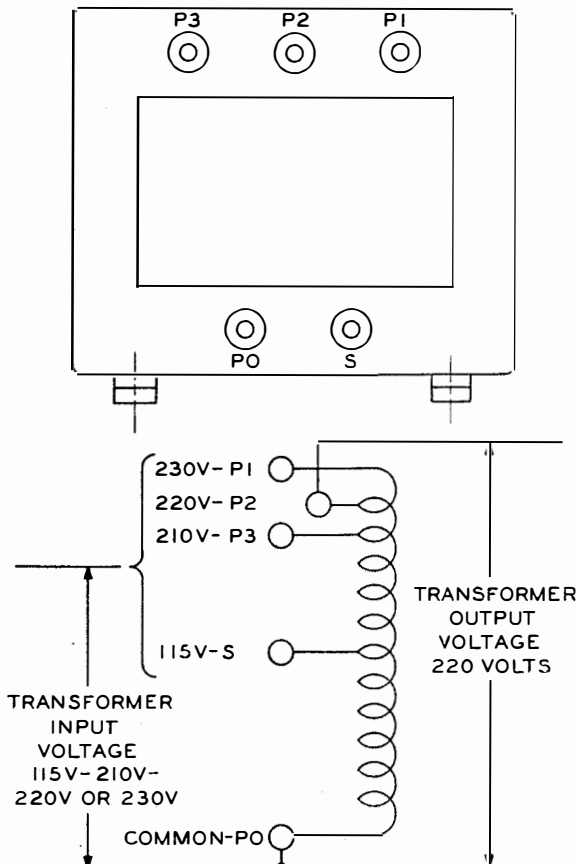

Fig. 13A Autotransformer Connections
**CAUTION:** Before connecting the power line to the power input terminals of the transmitter, carefully check the connections to the terminals of the autotransformer, T117. Refer to Fig. 13A and the following table for the proper connections for the various power source voltages: